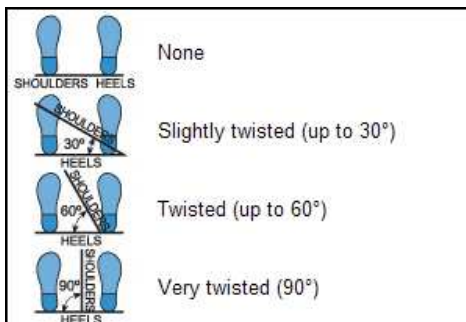

Figure 7: Trunk twisting
- Trunk twisting.** Select the trunk twisting from the pull-down menu, estimating the angle formed between the line linking the heels and the line linking the shoulders (Figure 7).